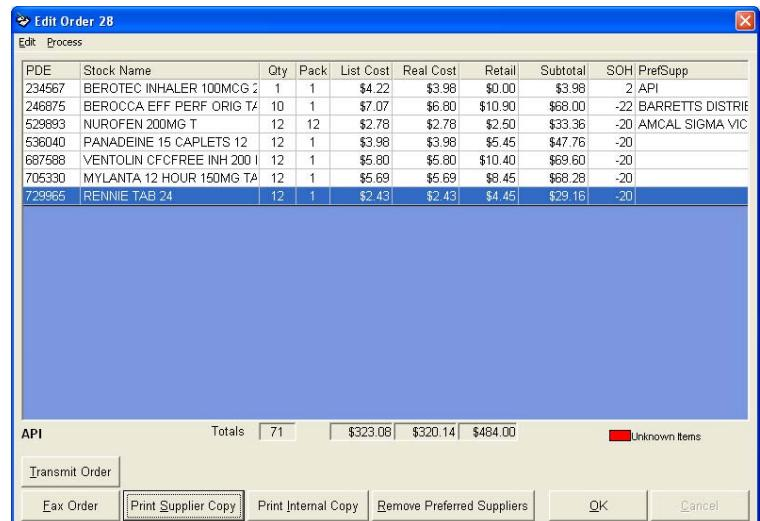

Figure 296
1. From your 'Edit Order' screen (as shown in Figure 296) select the 'Print Internal Copy' button on the bottom of the screen.